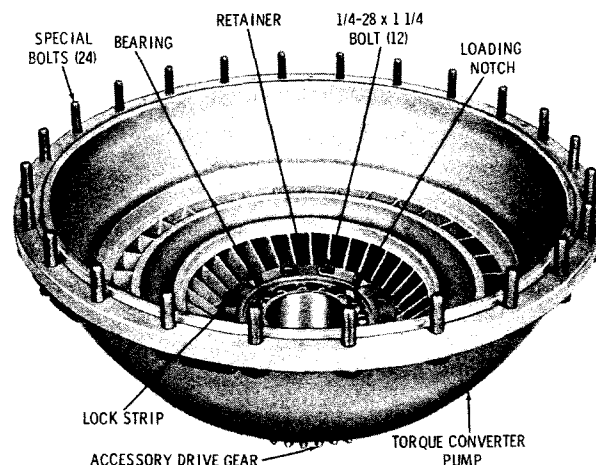

Fig. 6-4. Torque converter pump assembly
##### a. Disassembly (fig. 6-4)
##### b. Assembly (fig. 6-4)
(1) If any of the special bolts were removed from the pump, install their replacements. Align the flat side of the bolt head next to the pump and press the new bolt into place.
(2) Install the double-row ball bearing, loading notch upward, into the input accessory drive gear (fig. 6-4).
(3) Place gasket 17 (A, foldout 3) onto the input accessory drive gear and align the bolt holes. (Gasket 17 is not required for